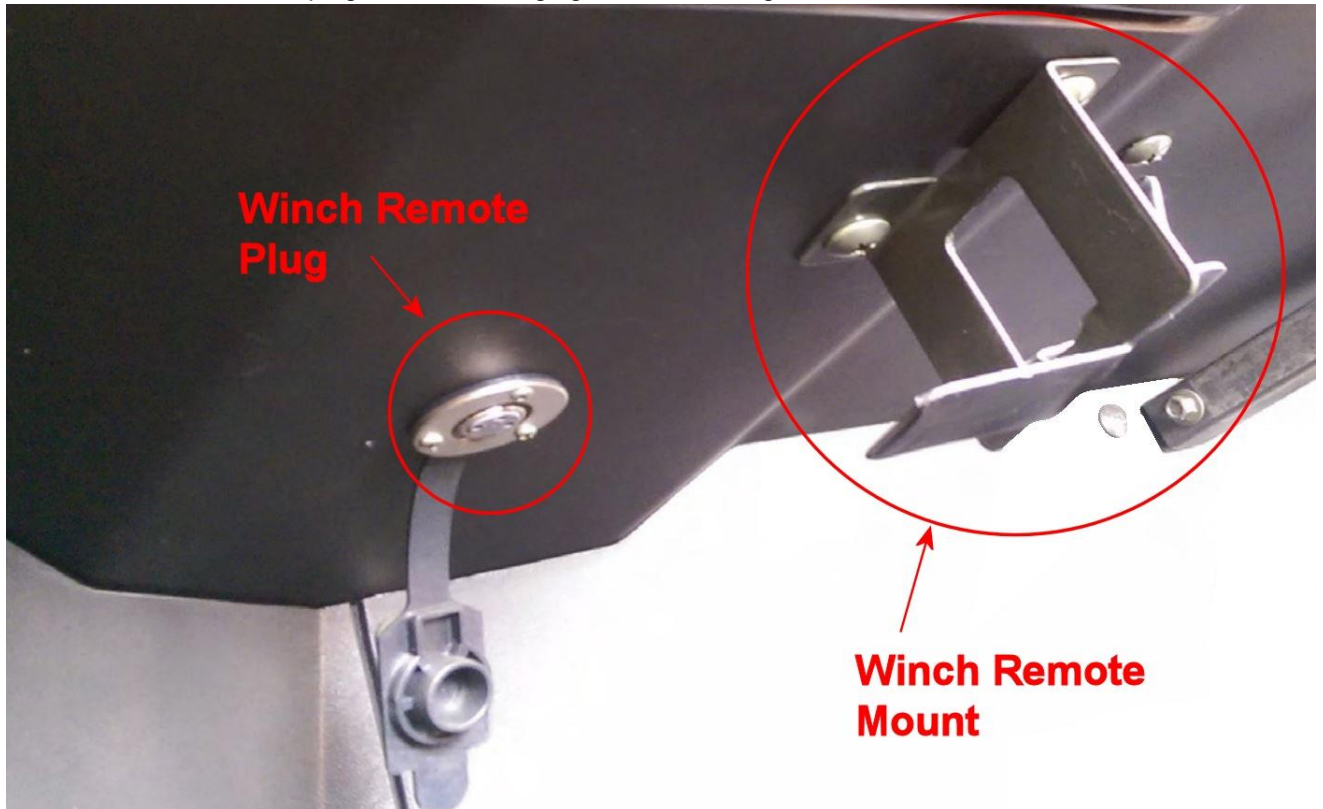

Figure 1
2. Unscrew the winch remote plug and leave hanging as shown in Figure 1.